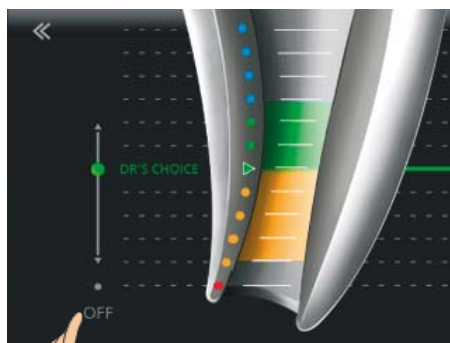

Fig. 25 Tap OFF
- To cancel the DR'S CHOICE apical line return to the Settings Menu, select DR'S CHOICE and tap OFF (Fig. 25).